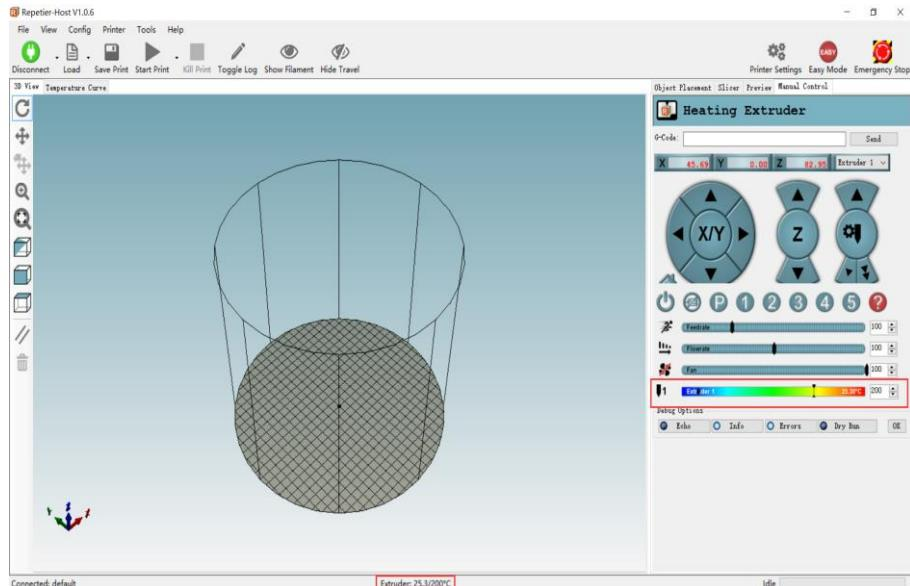

Figure 5.119 Heat the extruder
1. Set the heating temperature to 200°C on the **Manual Control** tab of the **Repetier Host** page and click  , as shown in Figure 5.119.